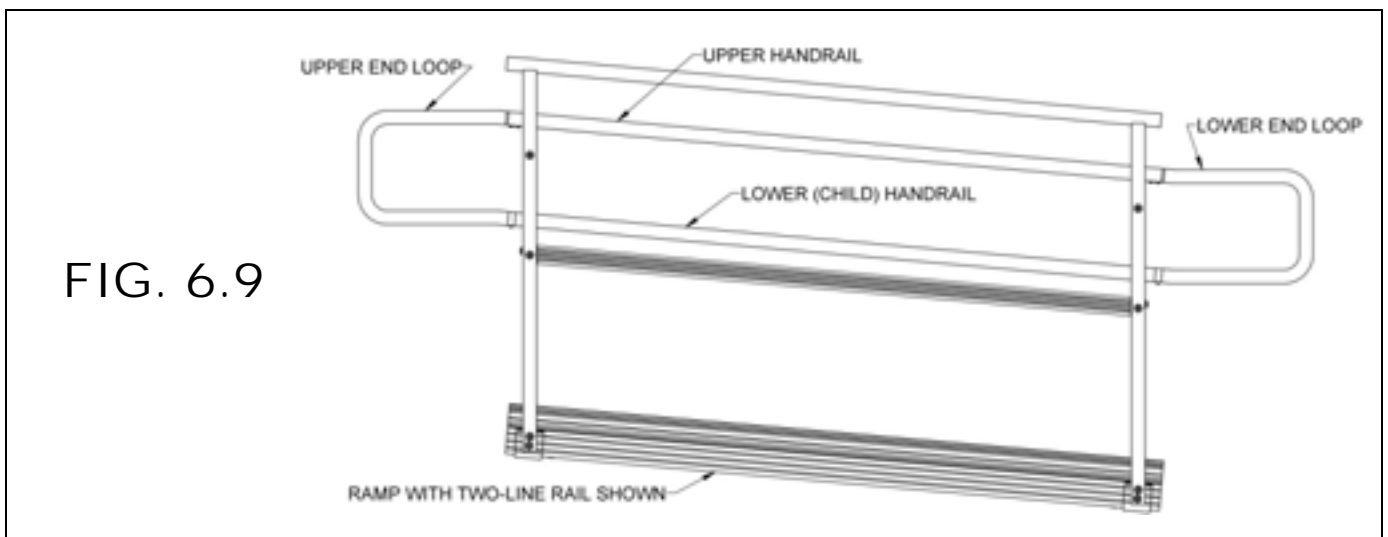

FIG. 6.9
- 6.4.1. Upper and lower end loops are also used when lower (child) handrails are present (FIG. 6.9) and are installed in all locations where the handrail does not terminate in some other manner (for example, a return to a building, a post, or the ground).
- 6.4.2. Upper loops and lower loops differ from one another but are installed in the same manner. If the loop being installed does not fit correctly, you are most likely trying to install it on the wrong end of the ramp or ramp run. Referencing FIG. 6.9, note how the ends of the upper end loop angle downward and ends of the lower end loop angle upward.